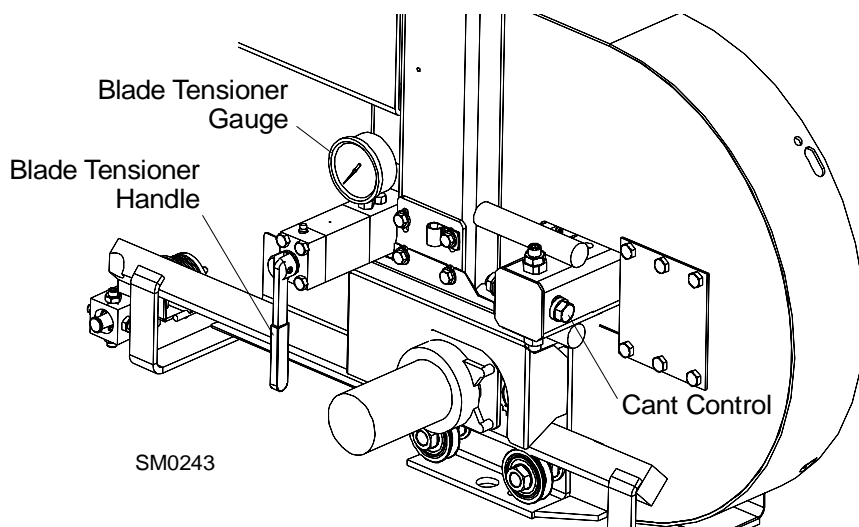

FIG. 2-2
See Figure 2-2.
See **Figure 2-2**. Tension the blade by turning the hydraulic tensioning handle clockwise until the tension gauge indicates the recommended tension.
4. To adjust where the blade travels on the blade wheels, use the cant control shown in **Figure 2-2**.